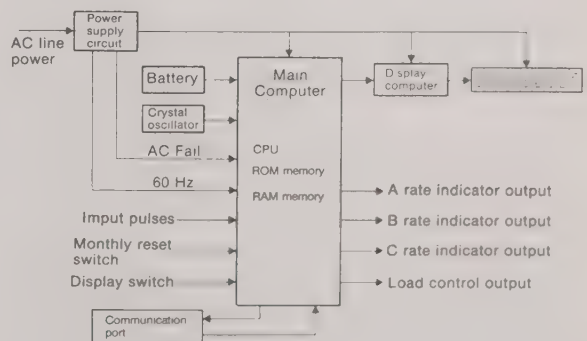

Fig. 7. Simple block diagram of the TM-80 register.
Figure 7 shows a simple block diagram of the TM-80 register. The heart of the TM-80 is the main computer which consists of the CPU (Central Processing Unit), ROM Memory (contains program steps) and RAM Memory (for storage of data). There are several inputs to the main computer. The first of these is 60 Hz, which is a logic-level input signal derived from the ac line and is used as the primary time base for the clock and calendar functions. Second is the output from a crystal oscillator, which is the secondary time base and is used only during a power outage. Next are the input pulses which come from the optics assembly and are proportional to the meter disk revolutions. Next are two switch inputs: (1) the monthly reset switch, used for manual reset of demand at the time of meter reading and (2) the display switch which, when magnetically activated, initiates various display operating modes.